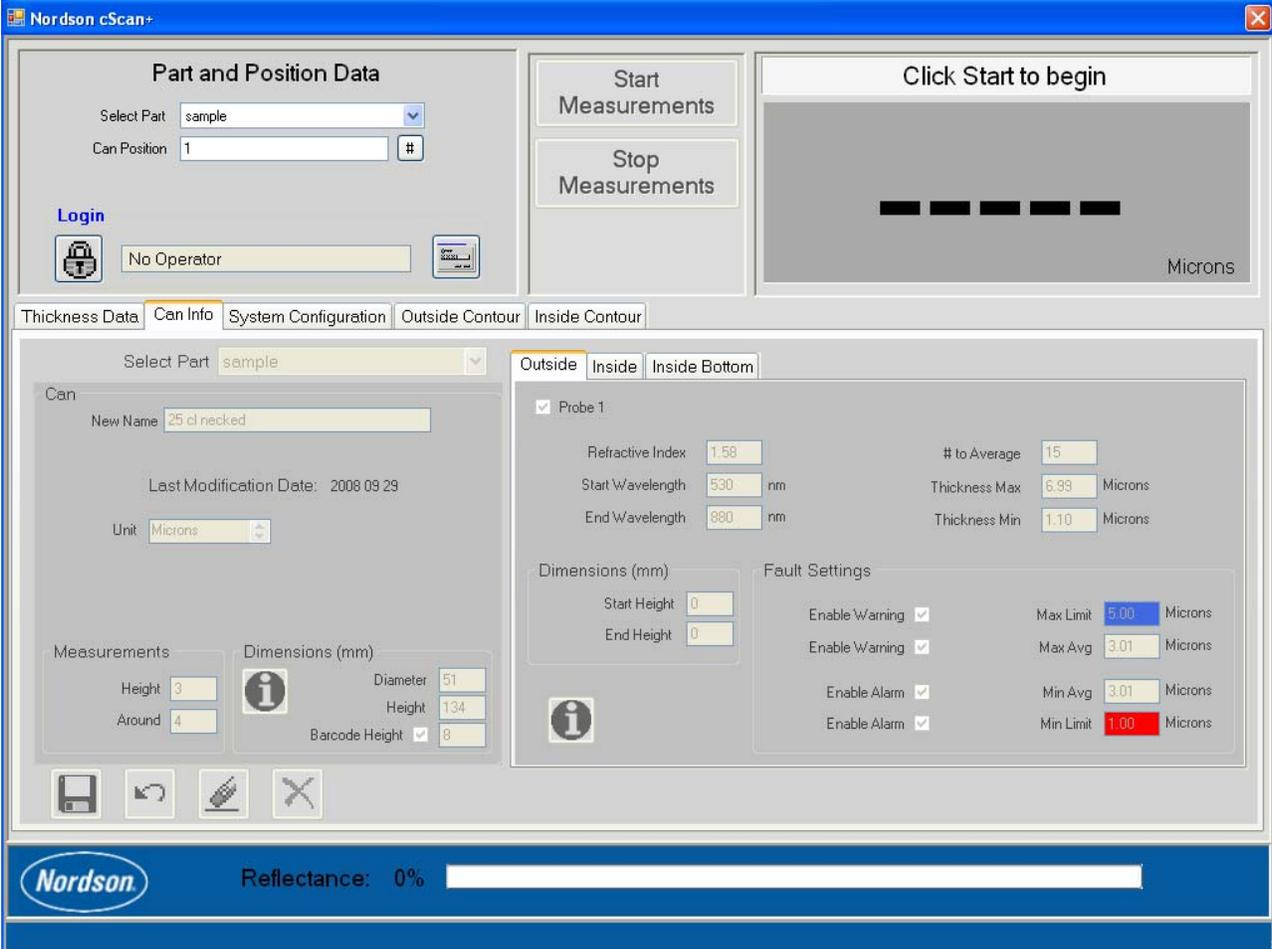

Figure 14 Can Info Screen
- 2. See Figure 14. Select the *Can Info* tab.